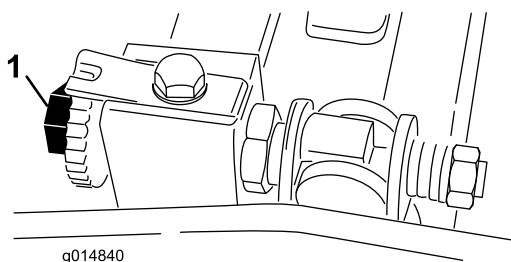

Figure 45
2. Ensure that the reel contact is removed by turning the bedbar adjusting screws counterclockwise (Figure 45).
turn the bedbar adjusting screw clockwise (on the same end of the reel, one click at a time, until the paper is pinched lightly, when inserted from the front, parallel to the bedknife, which results in a slight drag when paper is pulled (Figure 45).